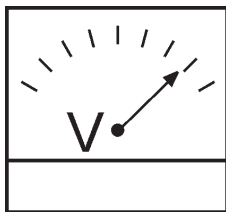

Figure 45. AC-voltmeter
7. The generator's AC-voltmeter (Figure 45) will display the generator's output in **VOLTS**.